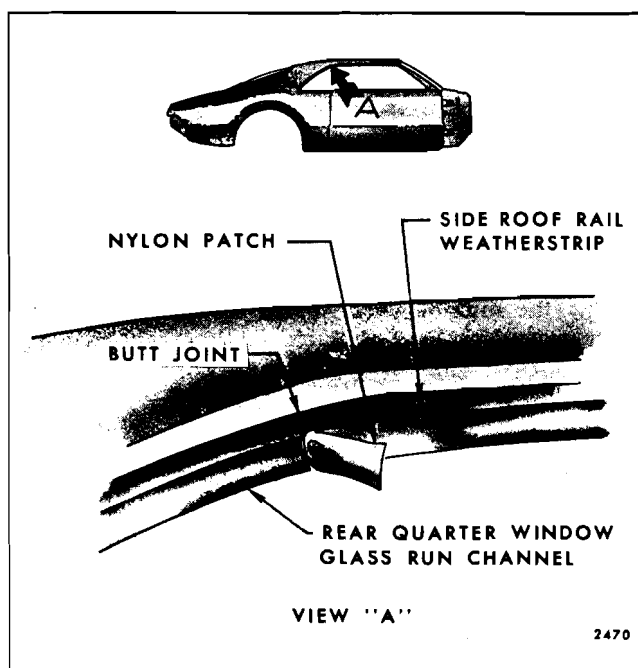

Fig. 6-12—Side Roof Rail Weatherstrip Replacement - "E-87" Styles
1. With a sharp implement, sever the vulcanized joint and remove front section of side roof rail weatherstrip as outlined in the preceding procedure. The service weatherstrip is equipped with a nylon patch, half of which is cemented in place (Fig. 6-12). The other half is to be cemented over the rear section of side roof rail weatherstrip (over quarter window) as directed in Step #3.
3. With an approved neoprene cement, install remainder of nylon patch (Fig. 6-12) to cover butt joint.